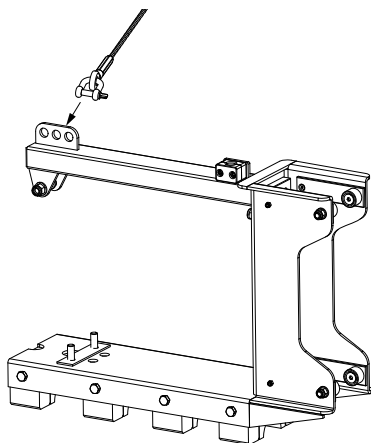

Fig. 22 Mounting of lifting wire on motor bracket
14. Mount the lifting wire (pos. 15) on the motor bracket using the shackle. See fig. 22.